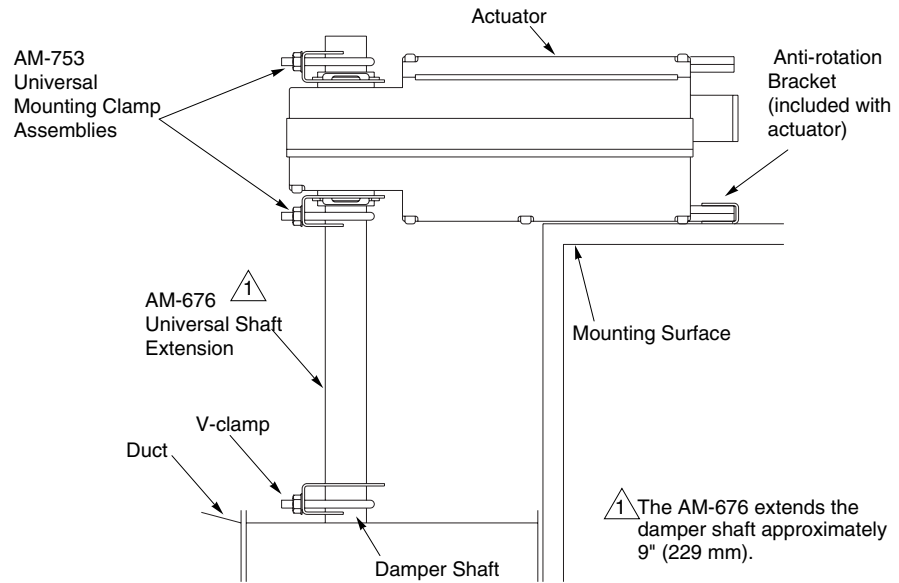

Figure-8 Installation of Universal Shaft Extension.
See Figure-8 for installation of actuator using the AM-676 Universal Shaft Extension. Installation requires AM-676 Universal Shaft Extension and AM-753 Universal Mounting Clamps for 3/4" to 1" (19 to 25 mm) shafts, these items must be ordered separately.
6. Assemble the damper actuator onto the universal shaft extension, allowing the extension to slide through the actuator's universal mounting clamps. Make sure the actuator is 90° (perpendicular) to the damper shaft. Then, hand tighten the nuts on both of the actuator's universal mounting clamps. See Figure-8
8. Position the actuator and bracket in the desired final mounting position on the mounting surface and drill mounting holes. See Figure-8.